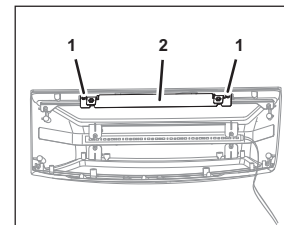

Fig. 32
14. Position the retaining plate (Fig. 32/2) on taxi cab hood.
15. Attach the retaining plate (Fig. 32/2) using the fastening bolts (Fig. 32/1).